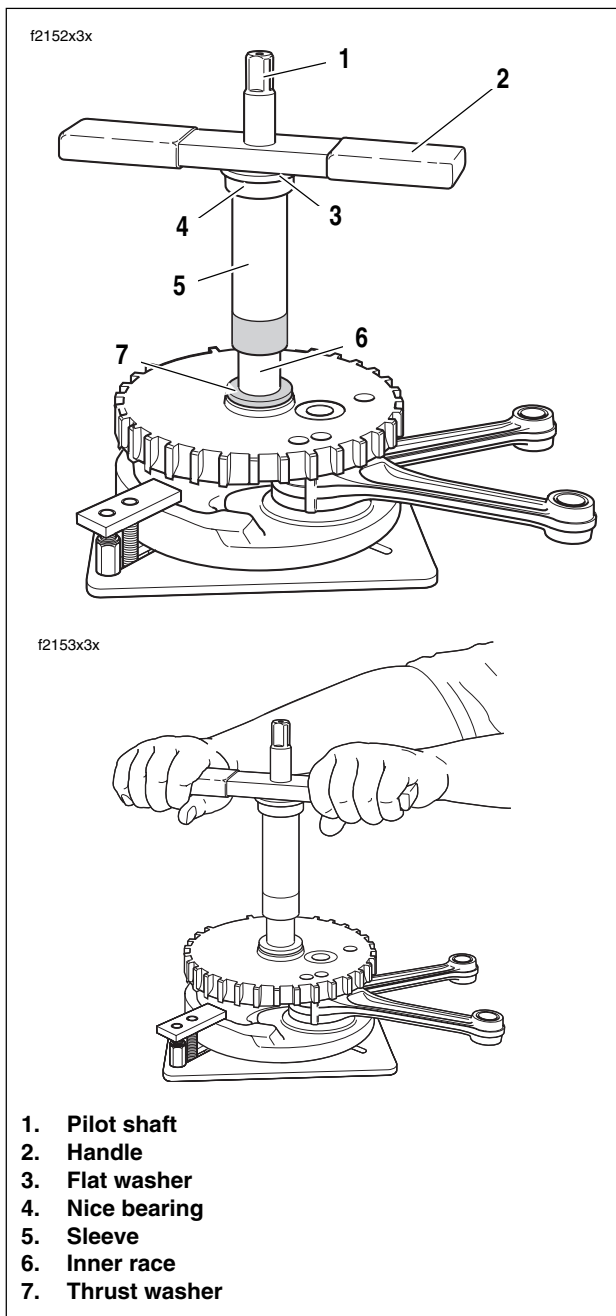

Figure 3-14. Press Inner Race Onto Sprocket Shaft
- a. See Figure 3-14. Thread pilot shaft onto sprocket shaft until contact is made with shoulder.
- e. Thread handle onto pilot shaft. See upper frame of Figure 3-14.
6. Rotate handle of tool in a clockwise direction until bearing inner race bottoms against thrust washer. See lower frame of Figure 3-14.